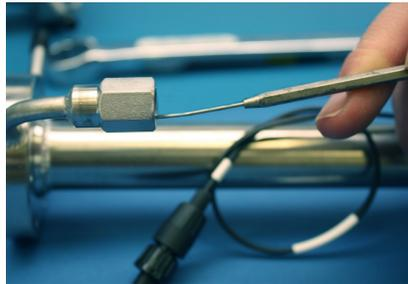

Figure B-7 Removing excess seal tape from flange
- 13.** Remove excess seal tape from the flange opening and threads and check galling. Refer to Figure B-7.